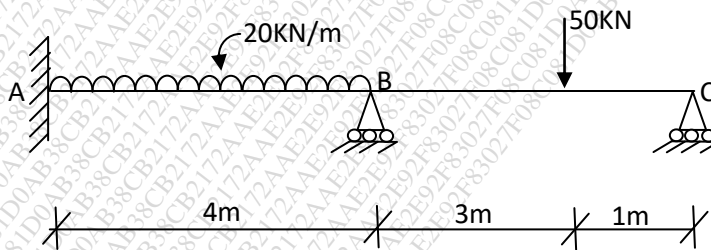

Figure 6
- Q.7 Analyse the beam shown in fig.6 using Clapeyron's theorem and find support moments and reactions. Hence draw SFD and BMD. $EI = \text{constant}$ 15